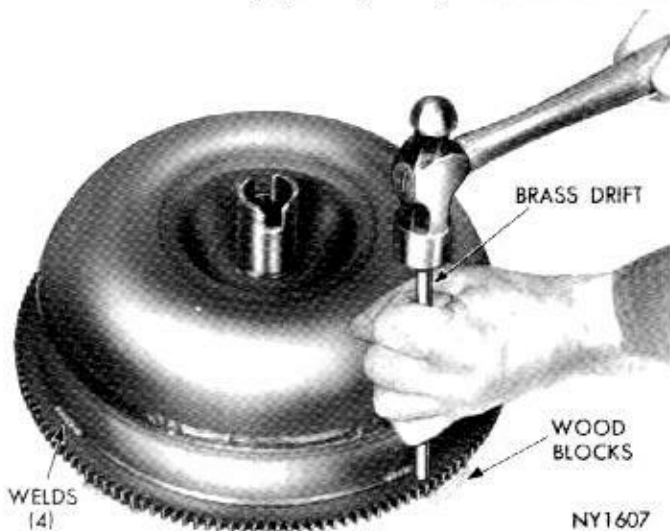

Fig. 27—Removing Starter Ring Gear
(1) Cut through weld material at rear side of ring gear with a hack saw or grinding wheel (Fig. 27). Be careful not to cut or grind into front cover stamping.
(2) Scribe a heavy line on front cover next to front face of ring gear to aid in locating the new gear.
(3) Support converter with the four lug faces resting on block of wood. **The converter must not rest on the front cover hub during this operation.** Using a blunt chisel or drift and hammer, tap downward on ring gear near welded areas to break any remaining weld material (Fig. 27). Tap around ring gear until it comes off the converter.
(4) Smooth off weld areas on the cover with a file.